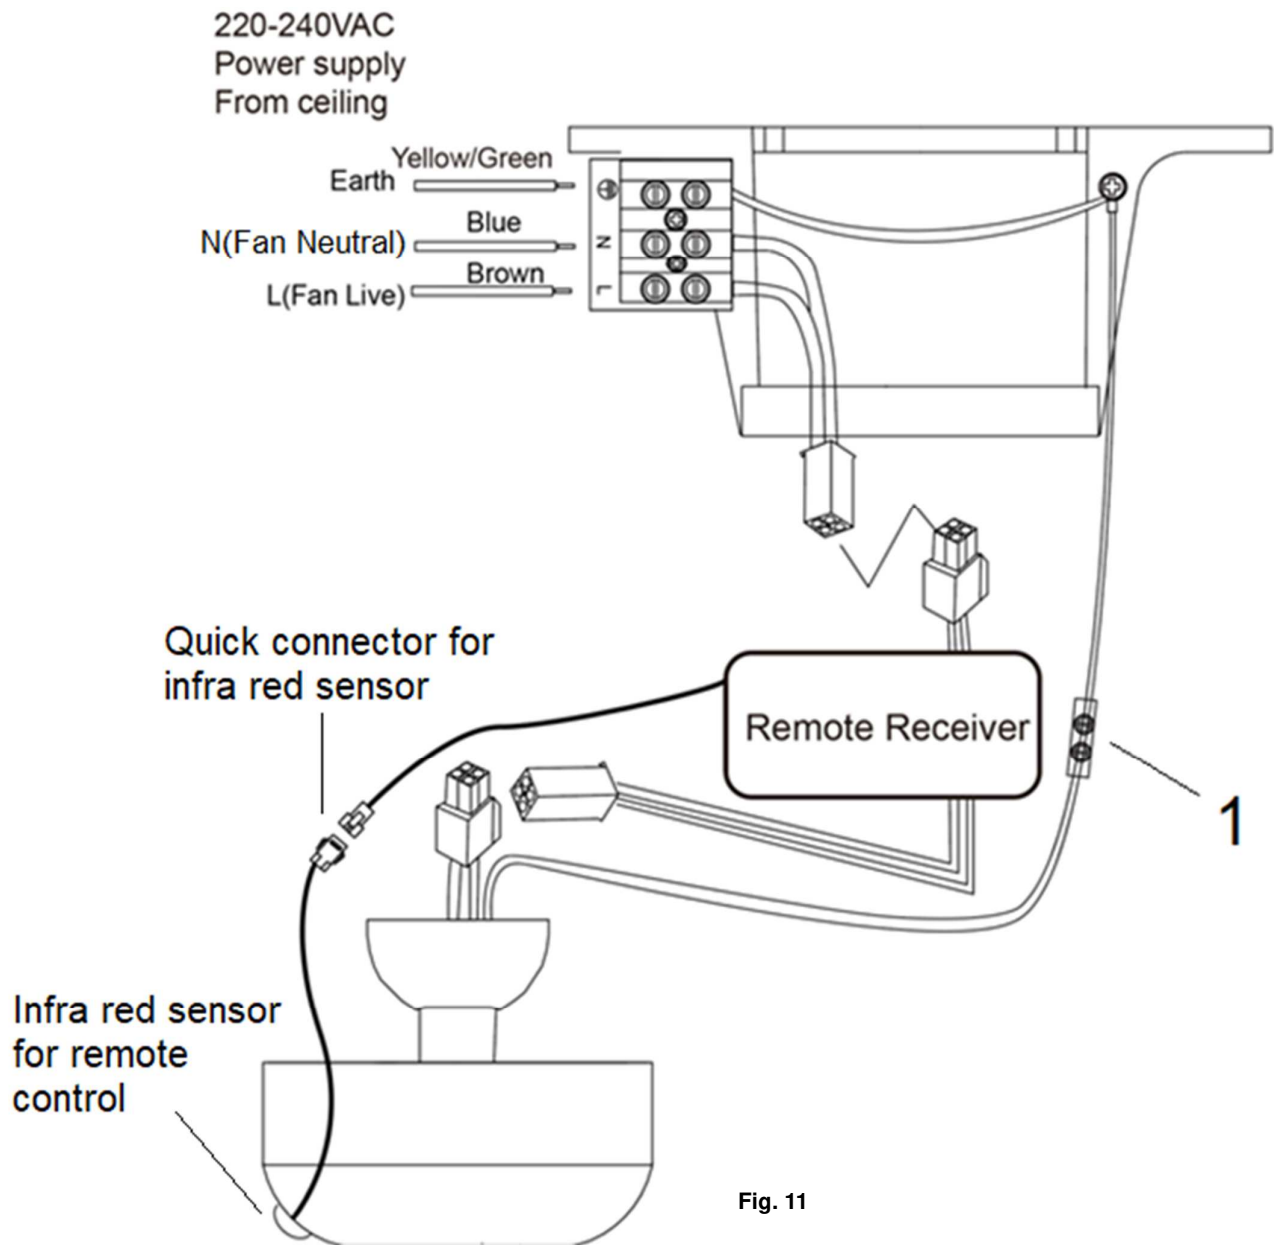

Fig. 11
Ensure the motor earth wire is connected to the single earthing terminal block “1” in the diagram below. (Fig. 11)
- Cover the mounting bracket with the canopy. Ensure all electrical wiring is tucked inside the canopy and that the wires are not damaged during this step. Secure the canopy to the hanger bracket using the screws provided. (Fig. 11)